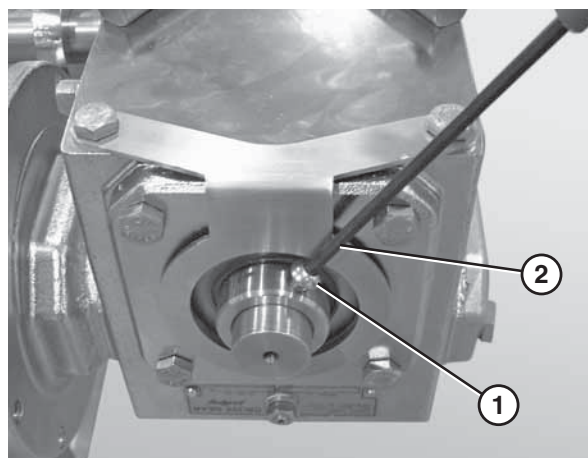

Figure 24
5. Tighten the drive spindle fasteners (**Figure 24, item 1**) located on the inside and outside of the gearmotor using a hex wrench (**Figure 24, item 2**).